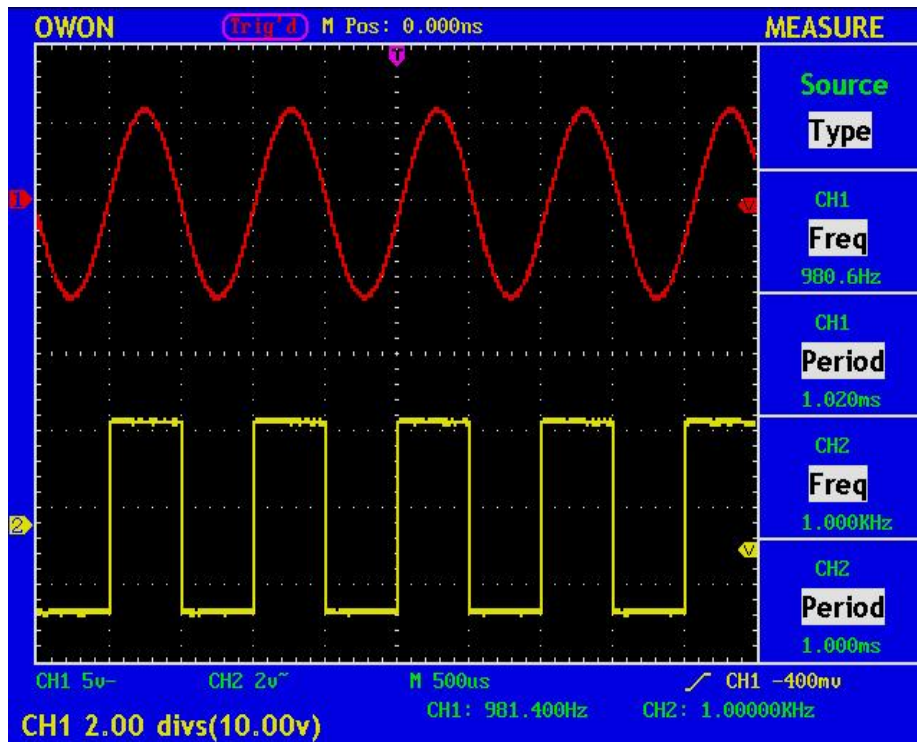

Fig. 32 Information about Vertical Position
3. When the vertical position of the channel wave form is adjusted, the screen shows the information concerning the vertical position at the lower left corner (see Fig.32).